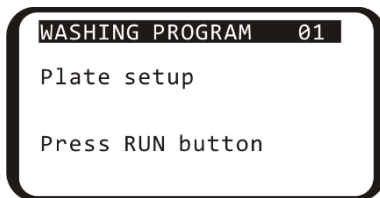
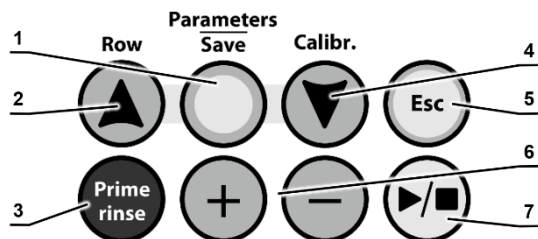
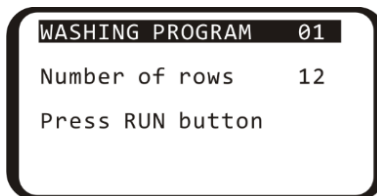
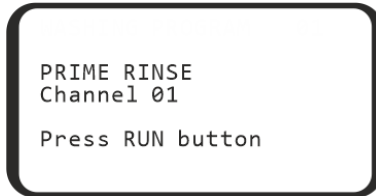

Figure 6. Plate setup
Figure 7. Control panel keys
Figure 9. Row count selection menu
Figure 13. Rinsing the tubes, channel selection.
- Press the **Calibr.** ▼ key (fig. 7/4) in the program choosing mode, then the ►/■ key (fig. 7/7), and the following message appears on the display (figure 6).
- To select the program number from 00 to 100, use the + and – keys (fig. 7/6).
- To edit the program parameters, press the **Parameters / Save** key (fig. 7/1).
- When editing the program parameters, to select next or previous parameter use the **Calibr.** ▼ or **Row** ▲ keys (fig. 7/4 and 7/2).
- When editing the program parameters, to exit the editing mode without saving, press the **Esc** key (fig. 7/5).
5.7.1 By default, the unit washes all rows of the microplate. In order to wash less rows, when in the program selection menu press **Row ▲** (fig. 7/2). Display shows the row count menu (figure 9). Using the **+** and **–** keys, set the necessary number of rows. To cancel and return to the previous menu, press **Esc**. To save and start the program, continue reading.
5.7.2 Press the ►/■ key (fig. 7/7) to start the program. The program can be started from the program selection menu, program parameters editing mode, or row count selection menu. To abort and return to program selection, press **Esc** key.
6.2.3 Press the **Prime rinse** (fig. 7/3), display shows the rinsing menu (figure 13). Select the channel of the attached tube using the + and – keys. Channel number can be found on the rear panel of the unit, under the attached tube (fig. 3/5–3/7)